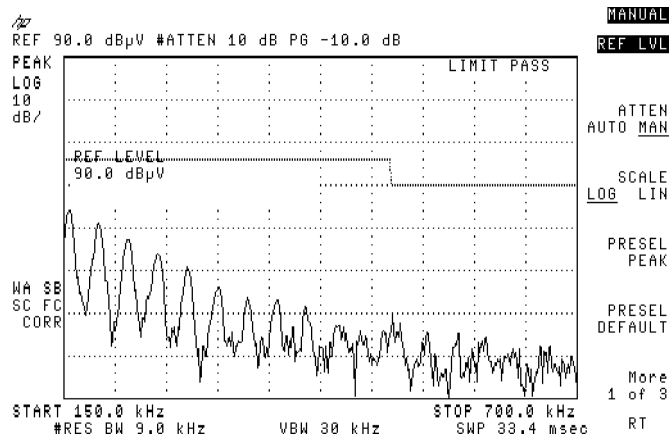

Figure 3-32. Adjusting the Amplitude Level
- 22. Press 90, **(dB)**. See Figure 3-32.